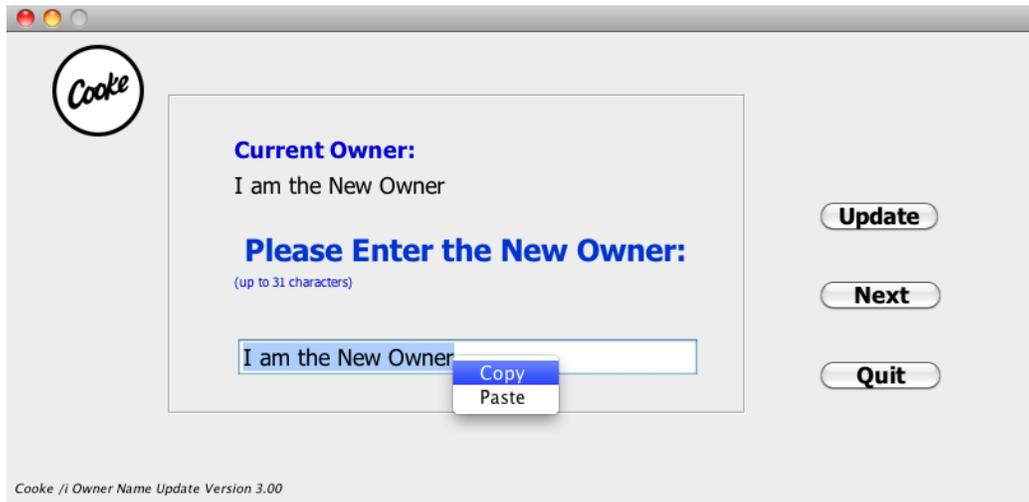

Figure 4 Copy and Paste Menu
- There is Copy and Paste menu by right click the mouse, shown in Figure 4.